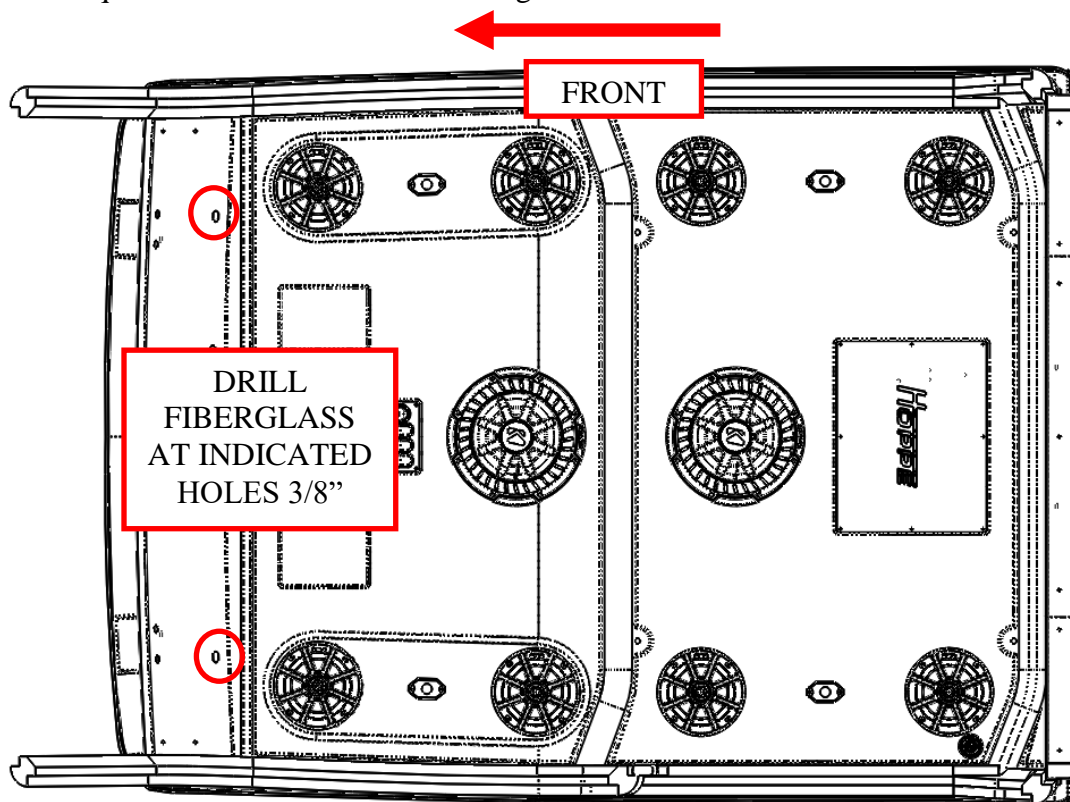

Figure 8: Install the top on the cage.
5. Using a few assistants, set the *Audio Shade* off-road top on the cage. The top is contoured such that the cage fits inside the grooves on the top. **Note: The top weighs up to 200 lbs. depending on your configuration. Since you will have to lift and reach, it is helpful to have at least 4 people for this step.** See Figure 8.
8. The top is mounted using the indicated holes in the factory cage. See Figure 8. Be sure the top is fully seated on the cage and in its final position. Drill a 3/8" hole through the fiberglass using the cage as a template at each location.